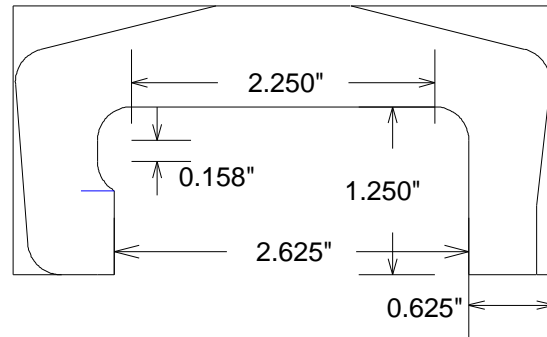

Fig. 5 Final Throat Geometry
- I. To finish machine the throat opening (see Figure 5), feed the cutter in the **climb** (down-milling) mode, traversing around the throat surfaces in a counter-clockwise direction, using the previously-calculated dial readings.